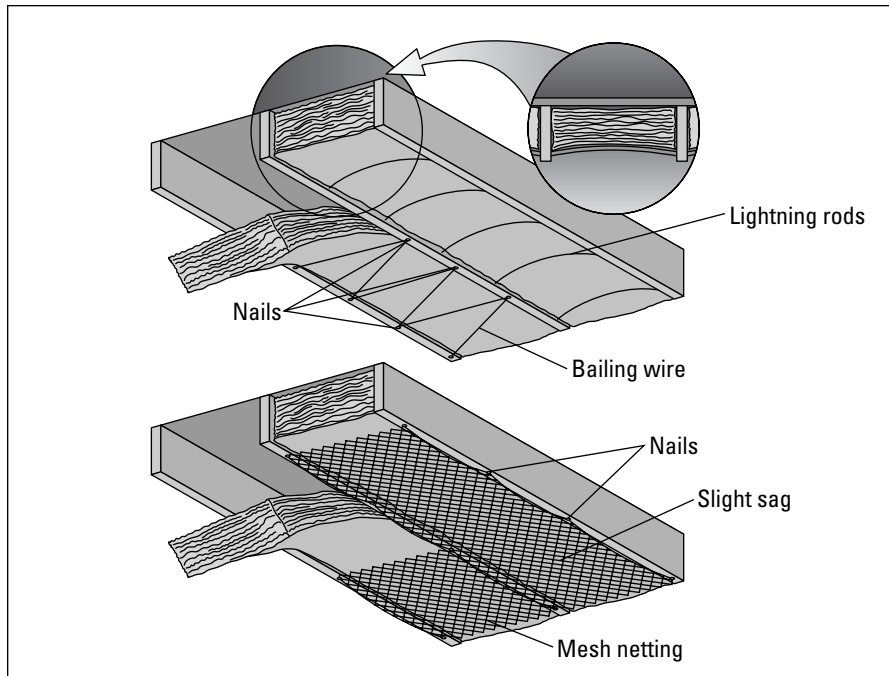

Figure 6-1: Lightning rods are a great alternative to traditional insulation netting, but both do the job.
- ✔ **To replace insulation netting**, lightning rods (named for their speedy installation) are a handy alternative to netting or bailing wire. These lightweight, flexible steel rods hold the insulation in place by spring tension. Just place one end of the rod against the side of a floor joist and bend it slightly so that the other end is forced into place against the face of the opposite joist (see Figure 6-1). Use one hand to hold up the insulation and the other hand to whip the lightning rod into place. Lightning rods are available at hardware stores and home centers.